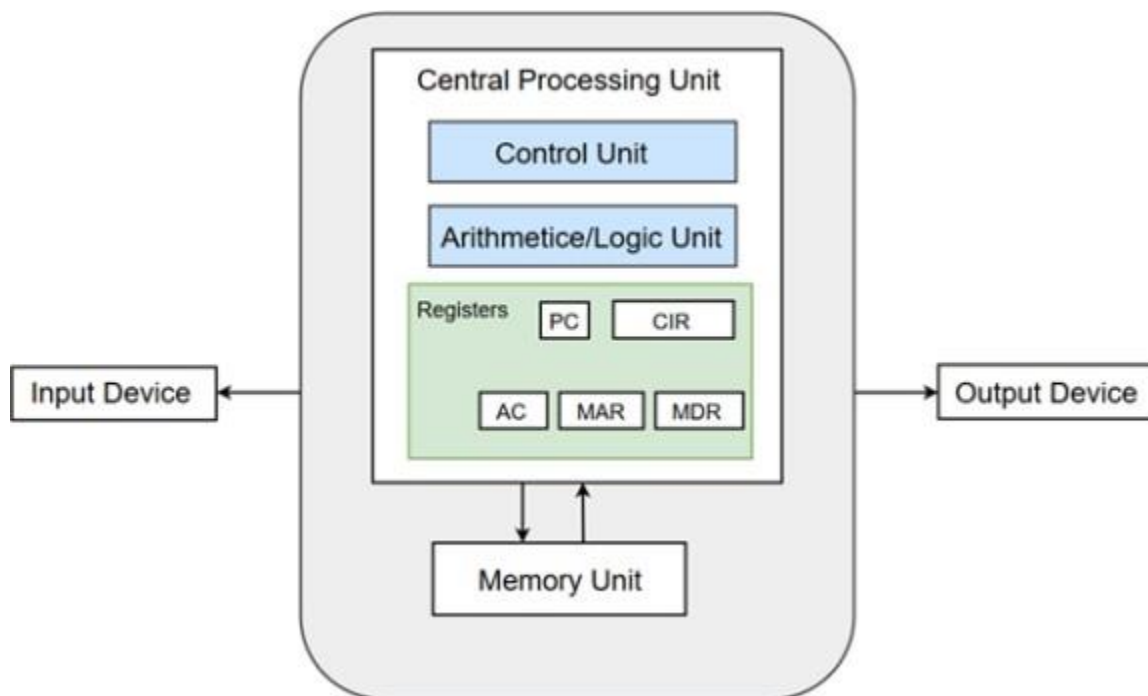

Figure 1: Basic Computer model
- 1- You have to write the basic code shown in Fig 1 at the last page of this experiment in your own Quartus II file.